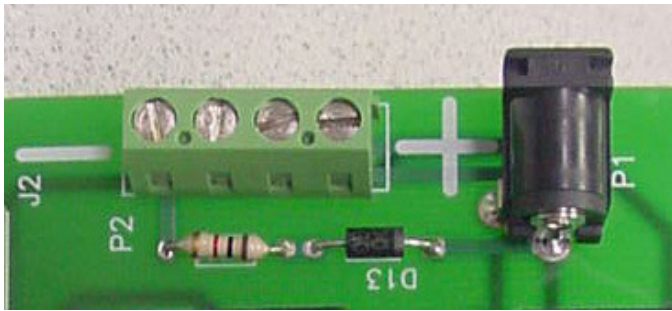

Figure 6
- 1. POWER** – The relay board requires 12v DC to operate. This may be delivered in one of two ways. If you have a 12v accessory bus running around the layout you can connect it to the connector labeled P2. Be sure to observe the polarity markings on the board. There are two plus and two ground terminals on the board so you can daisy chain the relay boards together. The other option is to use a 12v wall transformer and plug it into the connector labeled P1. Figure 6 shows the power connectors. Be careful if using the wire terminals to observe polarity markings. You may daisy chain more relay boards to the J2 connector and you would only need one wall transformer for all of your relay